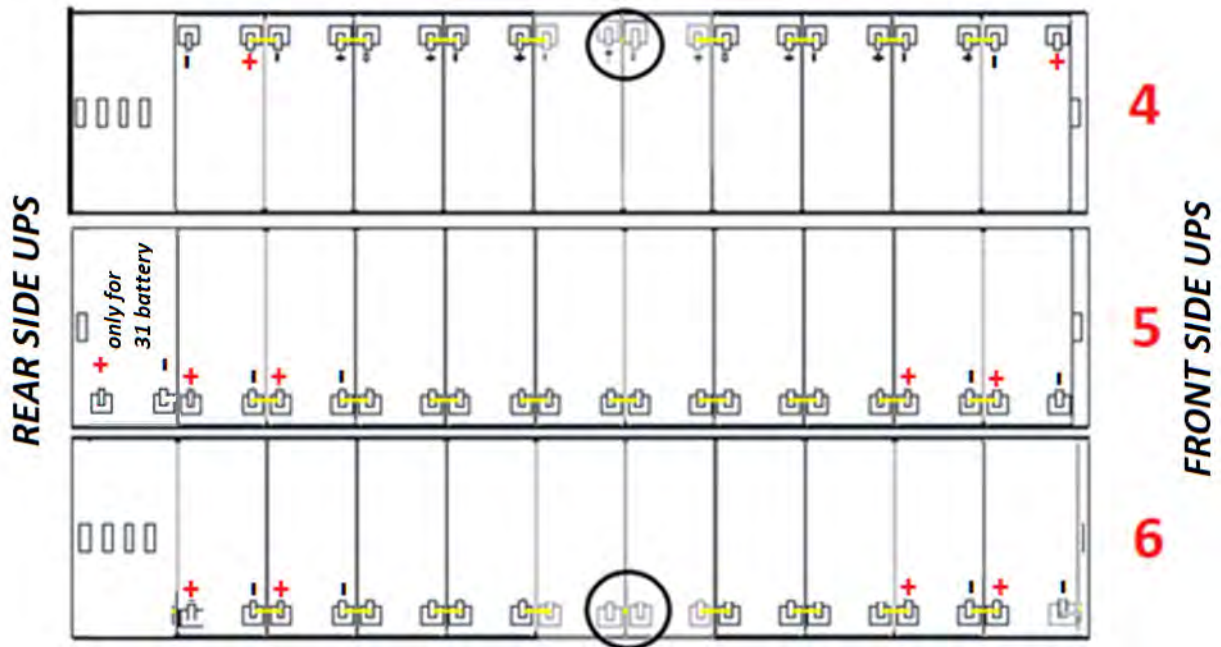

Figure 14 - View from above Level No.2
7) On Level no. 2, insert trays no. 4-5-6 in compliance with the position as demonstrated in Figure 14.